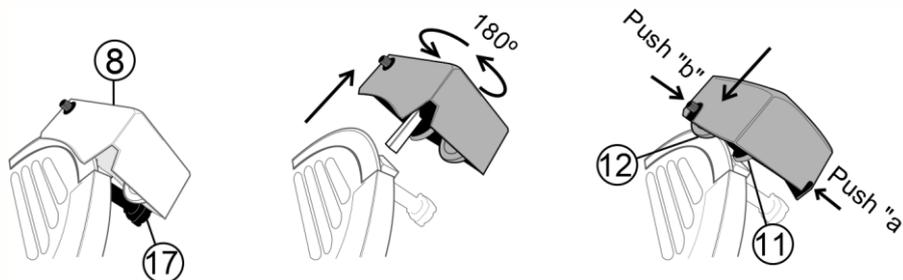

FIG 12. HOW TO RE-SHARP THE KNIFE
- 1.- Slide rods: you must lubricate the slicer with light oil at least every 100 hours or 3 days of service. The points to lubricate are upper and bottom sides of round (20) and square sliding rods.
- 2.- Knife: after certain period of use or if you notice the quality of the sliced meat is not as fine as the first time, you will need to re-sharpen the knife (5):
- B.- Loosen the sharpener lock knob (17) under the sharpening assembly, until it springs up (See Fig. 12).
- C.- Lift the sharpener assembly and rotate it 180°, reassemble and secure it. Verify that the stones are on each side of the knife ( approx. 1/4" under the edge ), then tighten the knob (17) again.
- D.- Turn on the machine and, push the rod " a ", let the stone (11) grind the under side of the knife for a few seconds. This will sharpen the edge and create a slight burr on the top side of the edge. When you release the rod "a" it will return automatically.
- E.- Then with the upper stone (12) remove the burr from the top side of the knife by pushing down rod "b". Only a very slight pressure is needed to hone the edge. Too much pressure and time can create a reverse angle and destroy knife edge. Rod "b" will return automatically when released.